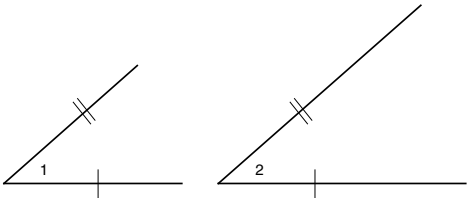

Figure 3-9. Two angles with corresponding parallel sides are equal.
- **Two angles are equal if they have parallel corresponding sides.** Thus, in Figure 3-9, Angle 1 equals Angle 2.